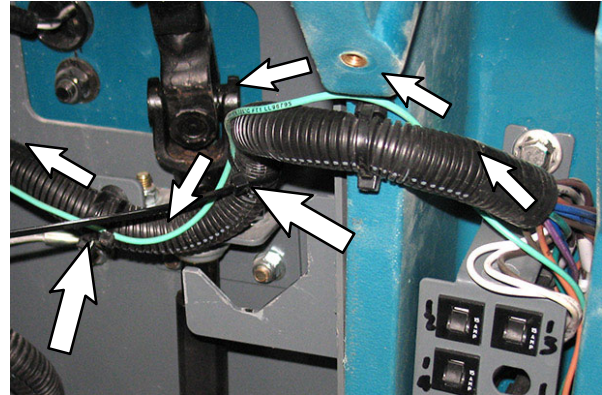

FIG. 5
4. Continue routing green wire (1) along the main wire harness and use two cable ties to secure the green wire (1) to the main wire harness so green wire will not inadvertently become tangled in the steering shaft. (Fig. 5)